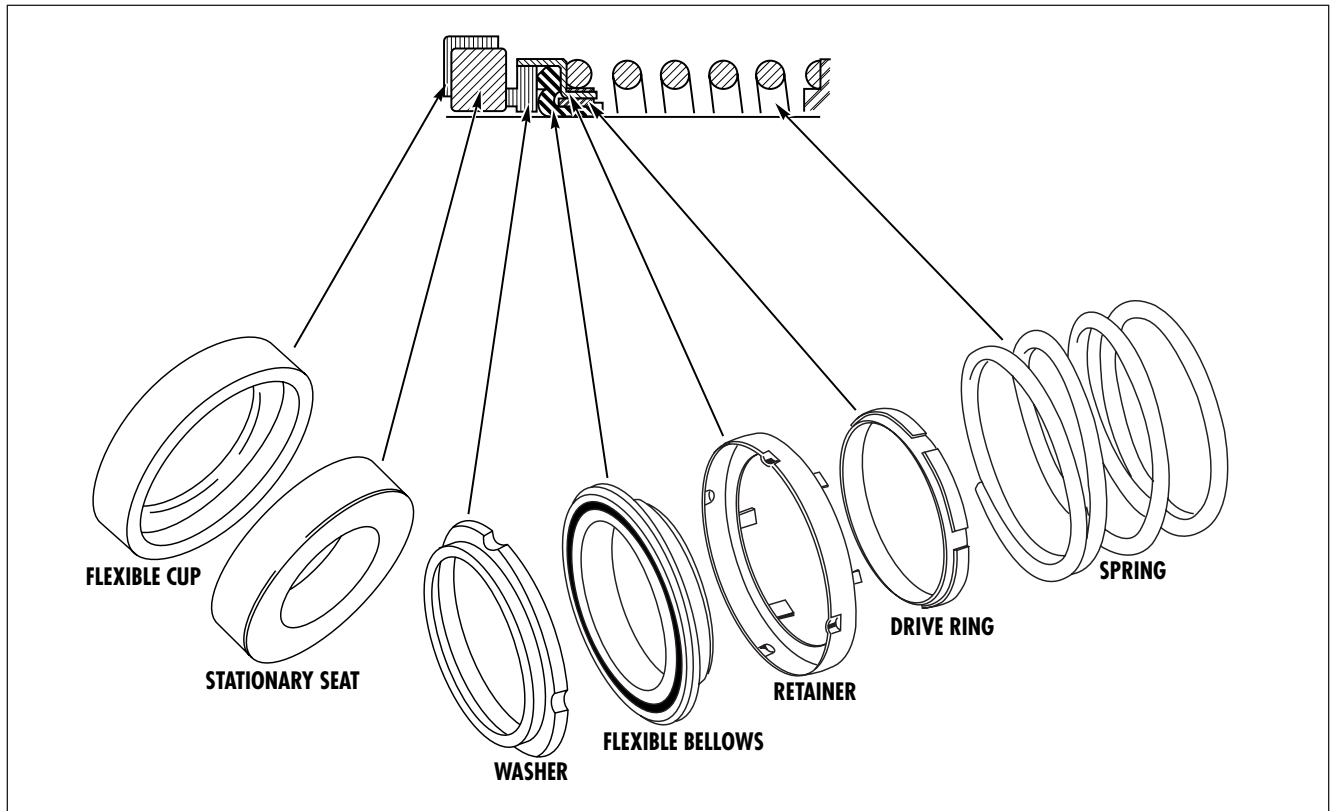

Figure 1. Mechanical Seal
The mechanical seal (see Figure 1) is a precision product and must be treated as such. During removal, great care must be taken to avoid dropping any part of the seal. Take particular care not to scratch the lapped faces on the washer or the sealing seat. If any wear of the seal faces is noted, it is recommended to replace with a new seal during reassembly.
1. Press grease seals (51) into frame (57). (344A)
2. Press bearings (53 and 54) onto shaft (55). Snap retainer ring (52) into place. (344A)
3. Slide shaft (55) and bearings (53 and 54) into frame (57) until retainer ring on bearing (54) comes in contact with frame (57). Place "O" ring (oil lubed only) (50) in place. (344A)
4. Fasten bearing cap (49) in position with capscrews (48). Insert grease seals (51A) and position slingers (47 and 47A) on the shaft. (344A)
5. The mechanical seal (27) (see Figure 1) cannot be installed as an assembly. It is necessary to have the seal seat properly in place in bracket (35) before the balance of parts can be added.
- Secure support (41) to bracket (35) with capscrews (39) and washers (40). Frame sizes 143 thru 184-JM Model 341A only.
- If nameplate (34) was removed, install and attach with screws (33).
- Wipe the sealing faces of the seat and seal washer clean. Replace pin (61) in sleeve if it was removed during disassembly. Apply a film of liquid dishwashing detergent to the washer and bellows of the seal and slide the remaining seal parts onto the sleeve making sure the washer is seated against the seal seat. Check the proper sequence of assembly as indicated in Figure 1. The shaft sleeve with the seal rotating assembly on it may now be replaced onto the motor shaft. Spring tension will probably prevent the sleeve from remaining in position axially until the impeller is locked against it.
- Press wearing ring(s) (7 and 16) in casing (6) and bracket (35). Rings should not be hammered into place. Use a press, or clamp the parts in a bench vise, using wooden blocks to protect the rings. It may be necessary to pin or dowel the rings after assembly if the insert or casing has had rings replaced before, since each reassembly can stretch or tear metal and thereby loosen the fits. If the facilities are available, it is good practice to take a very light finish cut or to ream the inside diameter of the casing rings after pressing to restore roundness. When rings are pressed, they may get squeezed out of shape.
- Coat the mating surfaces of impeller wear ring(s) (optional - 14 and 15) and impeller (11) with Loctite sealant grade 271. Replace wear rings, using the same care as for the case wear ring(s). If the rings are to be trued on a lathe, do not clamp the impeller so tightly that it is permanently distorted.
- Carefully replace gasket (10) on motor end of impeller. Assembly key (12) and impeller (11) to motor shaft. Secure impeller with gasket (9B), washer (9A), capscrew seal (9C) and impeller screw (9).
- Install the two pipe plugs (4) in the pump casing. Position the gasket (8) and casing (6) against the motor bracket and secure with screws (5). On Model 342A pumps position gasket (72) and set pump assembly in place. Tighten pump to base (73) with capscrews (39).
- Replace all relief, cooling, flushings, or drain lines from the pump including compression connections (1 and 2) and tubing (3). Replace all grease fittings pipe plugs, tube vents and oiler assembly for oil lubricated units. Connect discharge piping and suction piping, if required. Make sure to install gaskets on the flanged connections. On Model 342A pumps replace plugs (74 and 75) in base elbow (73).